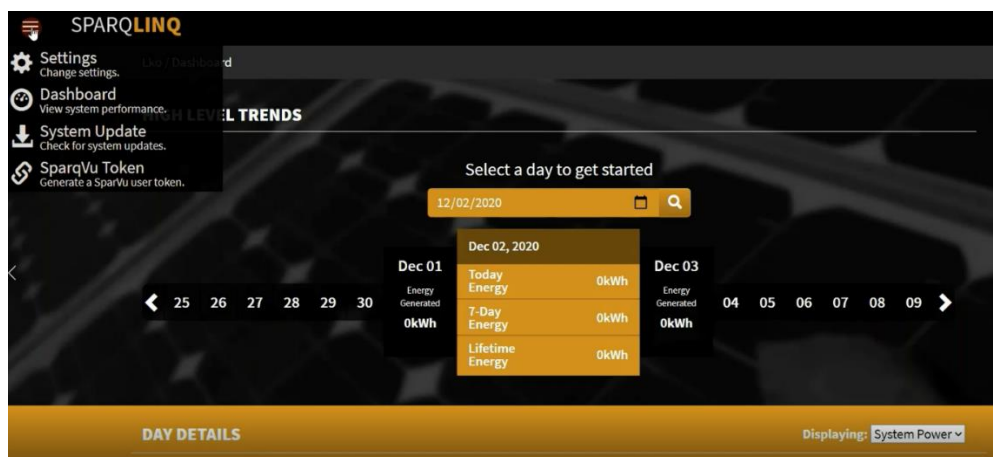

Figure 14: Network configuration via SparqLinQ dashboard.
- 1- Click on the menu icon (three horizontal bars) in the top left corner of the dashboard page and then select the Settings option as shown in Figure 14.